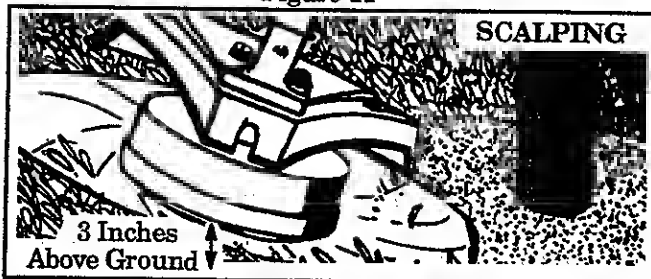

Figure 12
2. **SCALPING** - Figure 12. The scalping technique removes unwanted vegetation. Hold the bottom of the trimmer head about 3 inches above the ground and at an angle. Allow the tip of the line to strike ground around trees, posts, monuments, etc. *This technique increases line wear.*